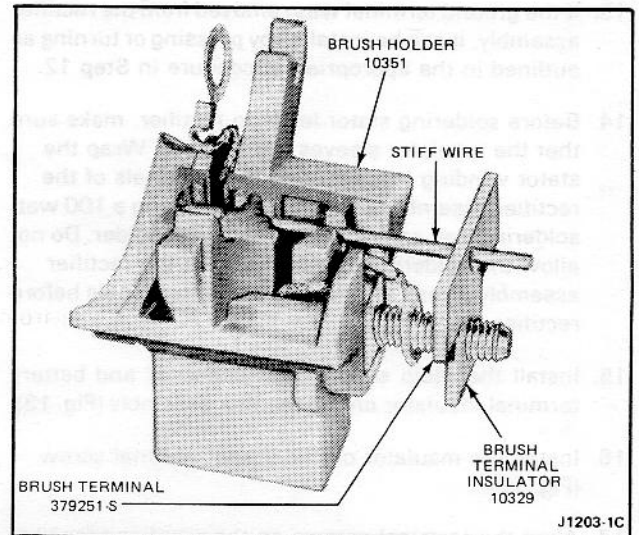

Fig. 18 - Brush Holder Assembly
9. Position the brush wiring eyelet over the brush terminal and install the brush terminal insulator (Fig. 18).
10. Install the springs and brushes in the brush holder. Hold the brushes against spring tension by inserting a piece of stiff wire through the brush holder (Fig. 18).